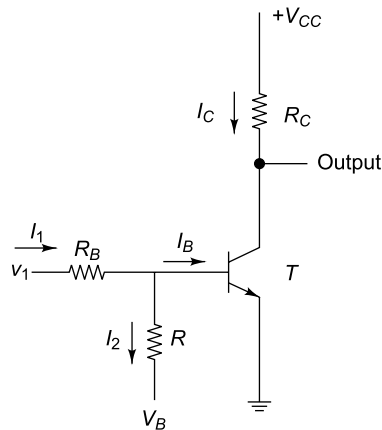

Fig. 6.51 Circuit of Ex. 6.32
- 6.32** Determine the current through R_B , R , R_C and base of the transistor as shown in Fig. 6.51.